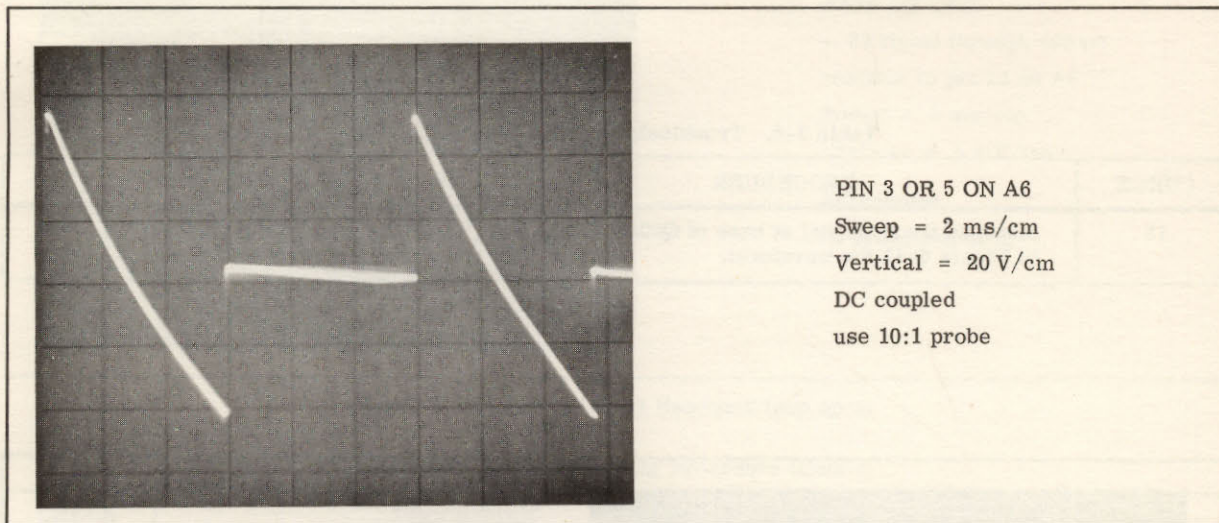

Figure 5-9. Neon Drive Voltage
Meter jitter exceeds 0.5% of full scale.	Check Q601, Photochopper Assembly (neons) see Figure 5-9. Verify the value of R606 to be 3.3 kΩ (-hp- Part No. 0683-3325).
⑩	Investigate Q605, CR604, and R615.
⑪	Investigate demodulator V503 and V504. See Paragraph 5-39 for photochopper check. Check chopper neon voltage. Refer to Figure 5-9 for waveform. Current variation through neons may cause meter jitter. For proper chopper action, neon firing potential (most negative point on waveform) is normally between 50V and 60V. If the waveform displays noise (nonlinearity) at both extremities, jitter will occur on the meter. If the waveform displays a noise replace the neon subassembly as outlined in Paragraph 5-41.
⑭	Investigate Q604, C605, (and demodulator), V503 and V504. See Paragraph 5-39 for photochopper check. Check chopper neon voltage. Refer to Figure 5-9 for waveform. See check number ⑪ for details.
⑮	Investigate Q603 and associated circuit.
⑰	Investigate Q601 and associated circuit.
⑱	Investigate V501, V502, C601, C602 and R601. See Paragraph 5-39 for photochopper check. Check chopper neon voltage. Refer to Figure 5-9 for waveform. See check number ⑪ for details.
⑲	Measure the ac signal at the output of impedance converter A2 (negative side of C205). The reading should be approximately 0.96 mV rms.	PASSES: Proceed to ⑳ FAILS: Proceed to ㉓
5-40. The following procedure verifies proper operation of the Photochopper Assembly. If the Photochopper fails any of the tests below replace the entire Photochopper Assembly (-hp- Part No. 1990-0223) or the neon subassembly (-hp- Part No. 1990-0224) according to procedures outlined in Paragraph 5-41. See Figure 5-9 to check operation of the neons. To check the photochopper assembly proceed as follows: